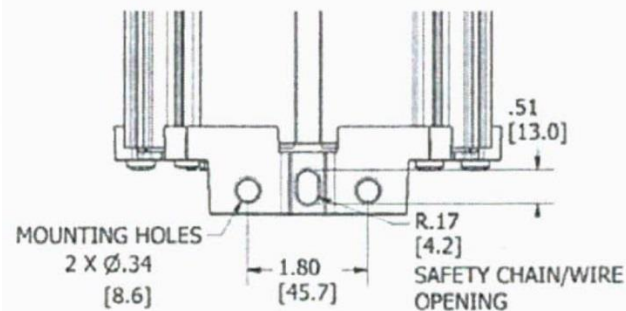

FIGURE 2 (Top View)
- B. The End Caps also have provisions for surface or suspension mounting. (See Figure 2)